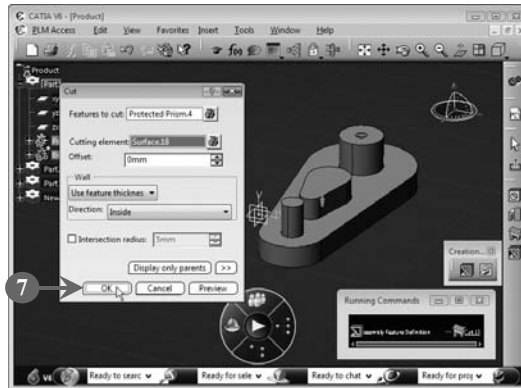

FIGURE 4.50
The selected feature is added to the **Features to cut** box in the **Cut** dialog box (Figure 4.50).
6. Select the component from which you want to remove the feature, as shown in Figure 4.50: